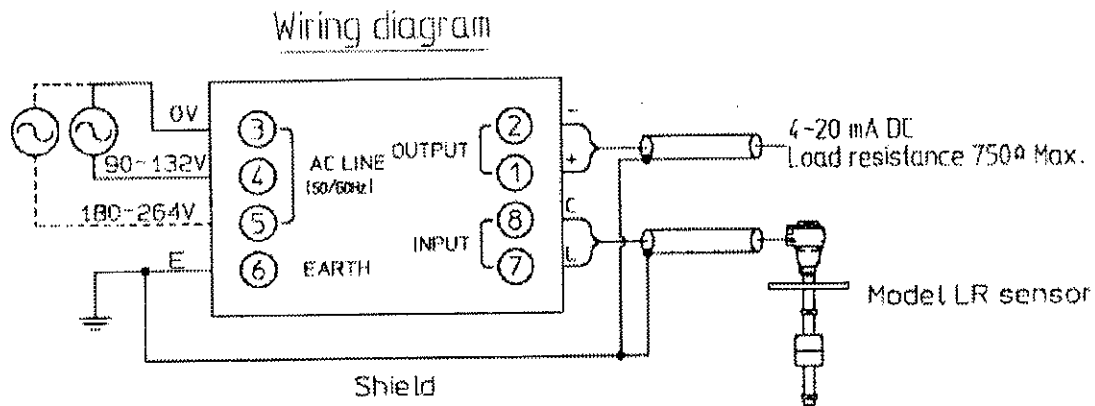

Fig. 13
- (1) Connect the cables to the terminals as shown in Fig. 13.